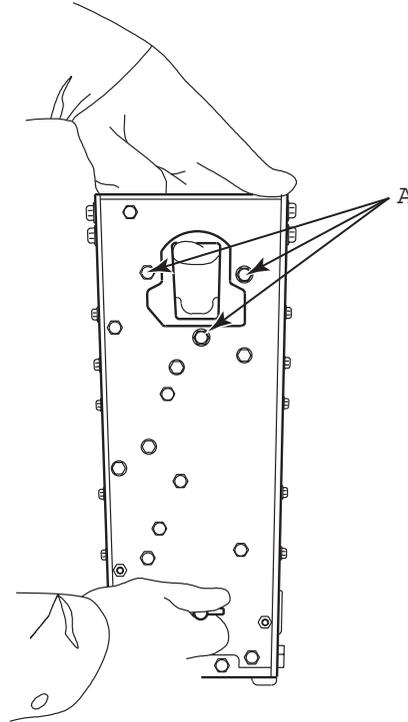

Figure 3-9. Hopper Chain Adjustment
1. Loosen the three screws at the top back of the hopper, which will allow the black plastic upper chain guide ring to move diagonally upwards, as shown in *Figure 3-9*.
2. Pull the upper chain guide ring up as shown in *Figure 3-9*, while you rotate the drive pin clockwise until the slack is removed from the chain but no binding is evident.